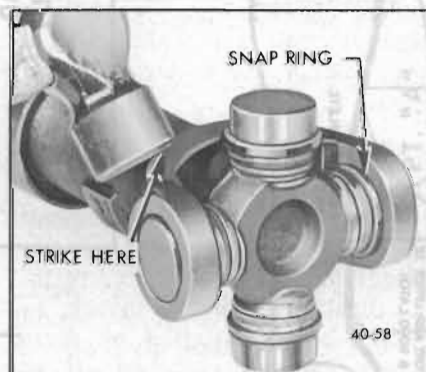

Figure 40-48—Seating U-Joint Snap Rings
4. Strike the yoke with a hammer to fully seat the snap rings against the yoke. Turn the spider to make certain that it is free. See Figure 40-48.